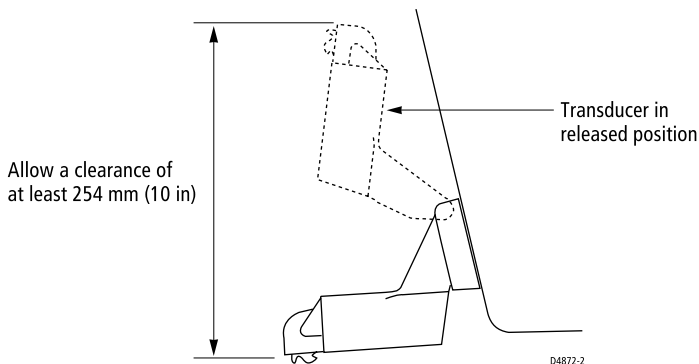

Figure 1-2: Transom Mount Transducer - Quick-release Bracket
- The bracket has a quick-release mechanism, shown *Figure 1-2*. This allows the transducer to flip up if it hits any debris or the bottom. Allow enough clearance above the transducer for it to swing upwards completely – this is about 10" (254 mm), measured from the bottom of the transom.